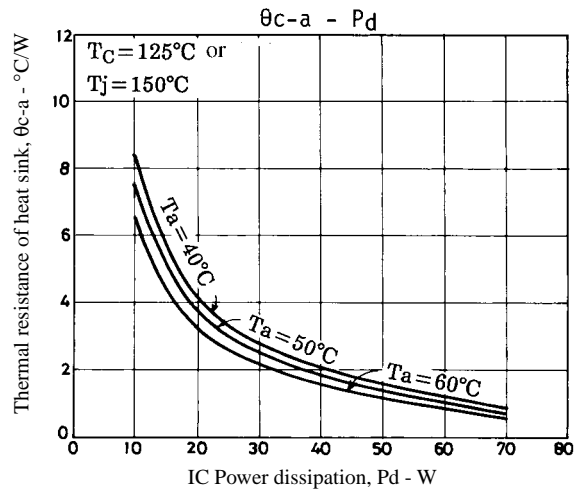

Figure 3. STK4142II θc-a - Pd
Figure 3 shows the relation between Pd and θc-a given from (1) and (3) with Ta as a parameter.
The thermal resistance of a heat sink is obtained from Figure 3.